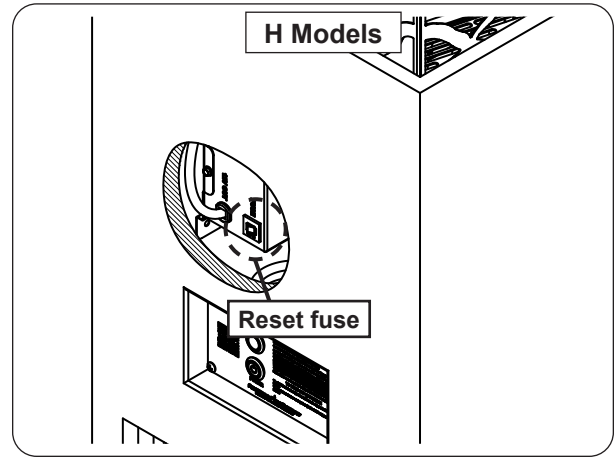

Fig. 36-1 Reset fuse
2. Gain access to the valve box and reset the fuse as shown in Fig. 36-1.